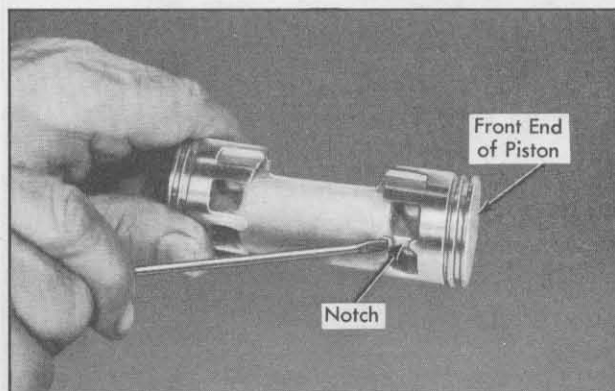

Fig. 1-80 Compressor Piston
9. Place piston in #1 compartment of Parts Tray with notch in casting web at front end of piston in dimpled groove of compartment, Fig. 1-80.
5. Install a zero thrust race on rear end of compressor shaft so that it rests on hub of axial plate. Then install thrust bearing and a second zero thrust race, Fig. 1-80. Lubricate races and bearing with petrolatum.